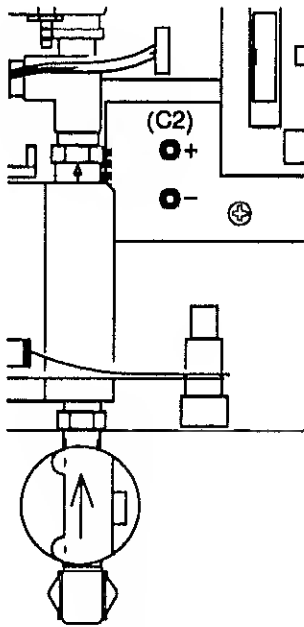

Figure 7-1
1. With the ventilator open and referring to figure 7-1, locate the solder side of the Power Supply Hold Up PCB and the terminal leads of capacitor C2.